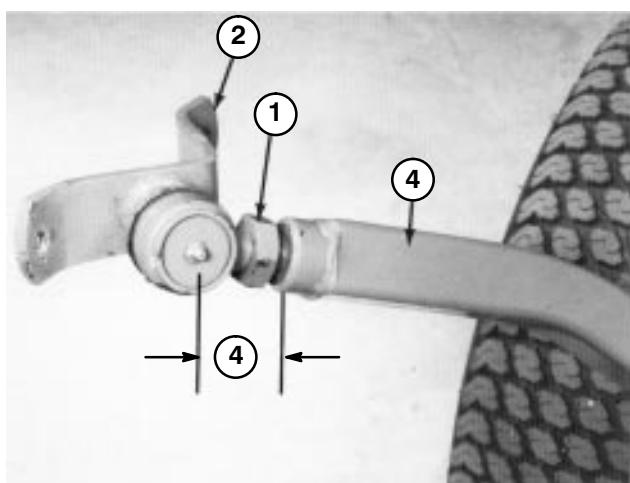

Figure 17
- Screw ball joint into right hand push arm until center of ball joint is 2-3/8 inches (60 mm) away from front of push arm (Fig. 17). Do not tighten jam nut.